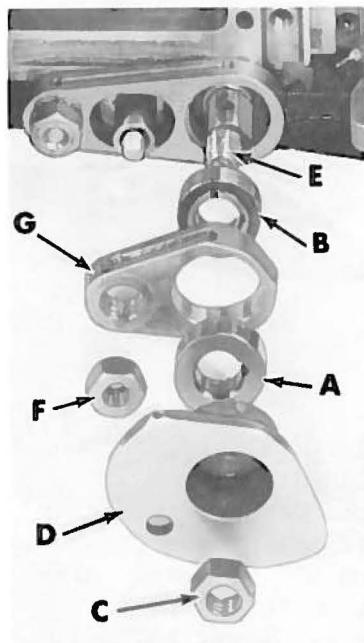

Fig. 17
Length of stitch is determined by the combination of feed eccentrics used. Outer (left) eccentric (A, Fig. 17) actuates main (rear) feed dog, while the inner (right) eccentric (B) actuates the differential (front) feed dog. In assembling feed eccentrics, be sure hubs are facing each other. Be careful not to damage shaft or key.
To change feed eccentrics, remove screws (A, Fig. 18) securing cast-off support end plate (B); remove screws (C) and screw securing the extreme right end of cast-off support plate (D) accessible with chip chute (E) open; turning handwheel to position 401 looper at extreme right, permitting removal of the left main feed thrust bar guide (F) with cast-off support plate (D) assembled. Remove nut (C, Fig. 17) and looper thread take-up (D) from end of shaft (E). Turn handwheel in operating direction until key slot in eccentric is toward front. Using hooked eccentric extractor supplied with machine, reach behind eccentrics and withdraw eccentrics. It may be necessary to move handwheel back and forth slightly during extraction.
If eccentrics are unusually tight fitting, in addition to removing nut (C) and take-up (D, Fig. 17) from shaft (E), it may be helpful to remove nut (F) and feed driving connection (G). Then continue as originally suggested.
NOTE: Before tightening nut (C, Fig. 17) refer to paragraphs under "401 Looper Thread Control Adjustments".
NOTE: When eccentric cams are changed or looper thread take-up requires adjustment, always torque nut (C, Fig. 17) to 24-25 in. lbs. (28-29 cm/kg).